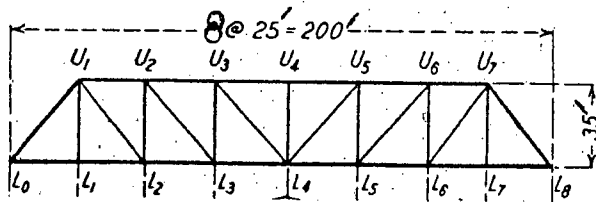

Fig. 7
7. Calculate the counter stress in panel 3-4 of the truss shown in Fig. 7 due to the following loading: (21)